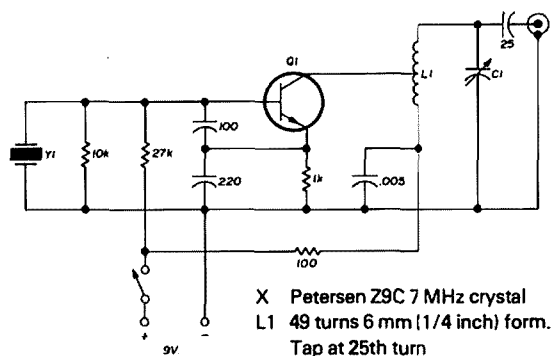
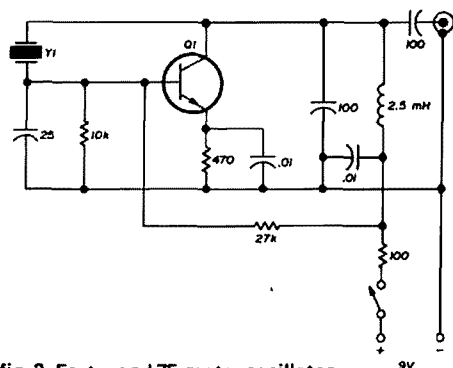

fig. 1. Twenty-meter oscillator.
fig. 2. Forty- and 75-meter oscillator.
I built a crystal-controlled transistorized signal source (powered by a 9-volt battery and mounted on the Macromatcher) for 20 meters (fig. 1) and 40 and 75 meters (fig. 2). The photo shows the complete unit. The 20-meter oscillator is on the left, and the 40- or 75-meter oscillator is mounted on the Macromatcher. A Bud minibox CU-2103-B, 102 × 58 × 58 mm (4 × 2-1/4 × 2-1/4 inches), was used. The part of the minibox with the lips is fastened to the Macromatcher as shown.
Fig. 2 shows the back of the TS-820 METER switch. It's a double-pole, five-throw (DP5T) switch with only one-half being used; i.e., single-pole five-throw, or SP5T. Thus half
fig. 2. Modifications for selectable filter switching for the TS-820. The meter switch (S-1) is shown at (A) viewed from rear of panel. New connections to connector 1F2 are shown in (B).
6. Route the new wire along the large wire bundle and up through the chassis to the back of the METER switch. Cut to length, strip, tin, and solder to the switch at terminal 1 as shown in fig. 2.